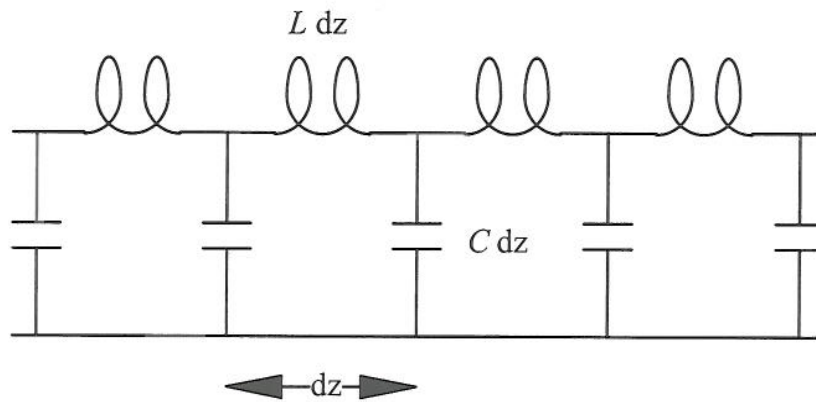

Figure 5
5. a) Figure 5 shows an equivalent circuit for a section of a transmission line. Derive the transmission line equation, and show that the phase velocity of waves on the line is  $1/\sqrt{LC}$ . [8]